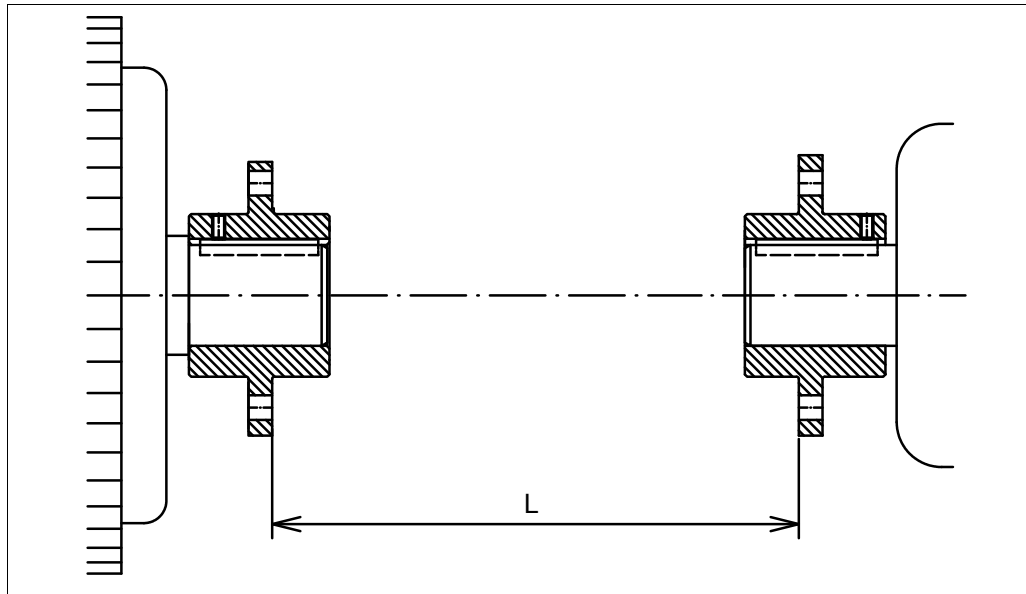

Fig. 14
- Align input and output shaft **Fig. 14** with each other, the alignment tolerances from **chapter 7.7.2** are applicable in this case.